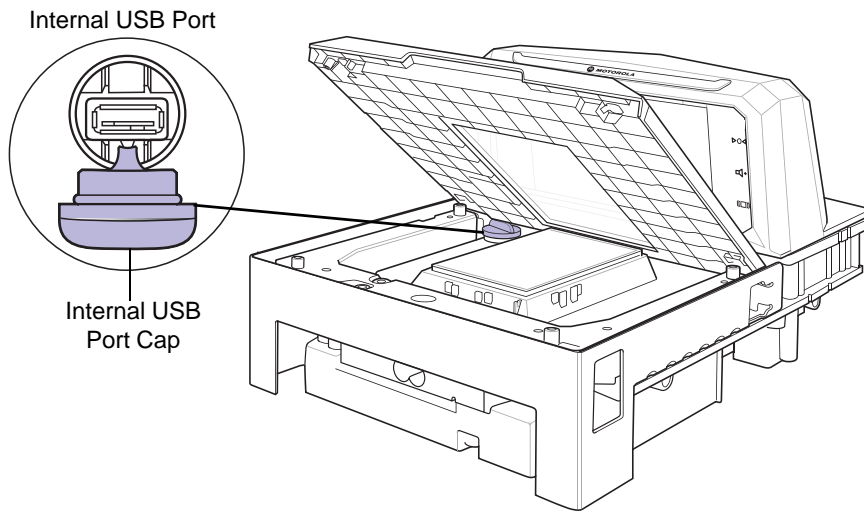

Figure 5-9 USB Port Under the MP6000 Platter
The MP6000 has three USB ports which can be used to load files (see Figure 5-9):
- Insert the staging flash drive into one of the MP6000 USB ports (Figure 5-9), and select *Option 1 - Load Files* (see Step 3).